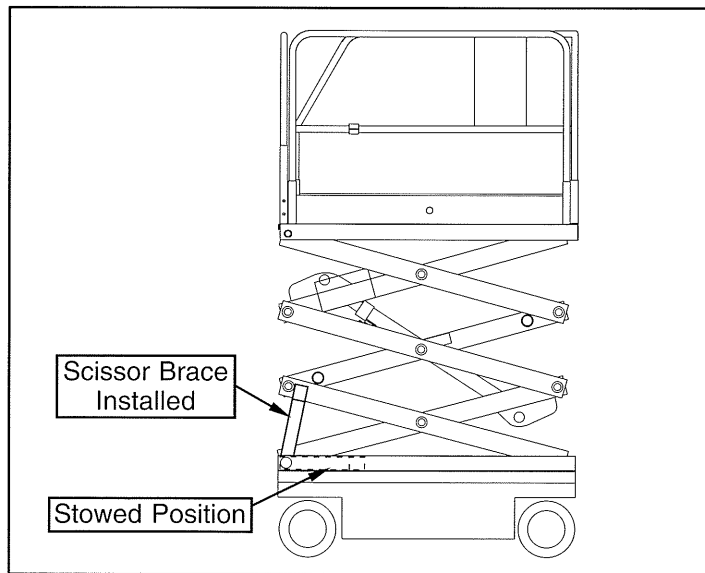

Figure 2-7: Blocking Elevating Assembly
2.9 Blocking Elevating Assembly (Figure 2-7)